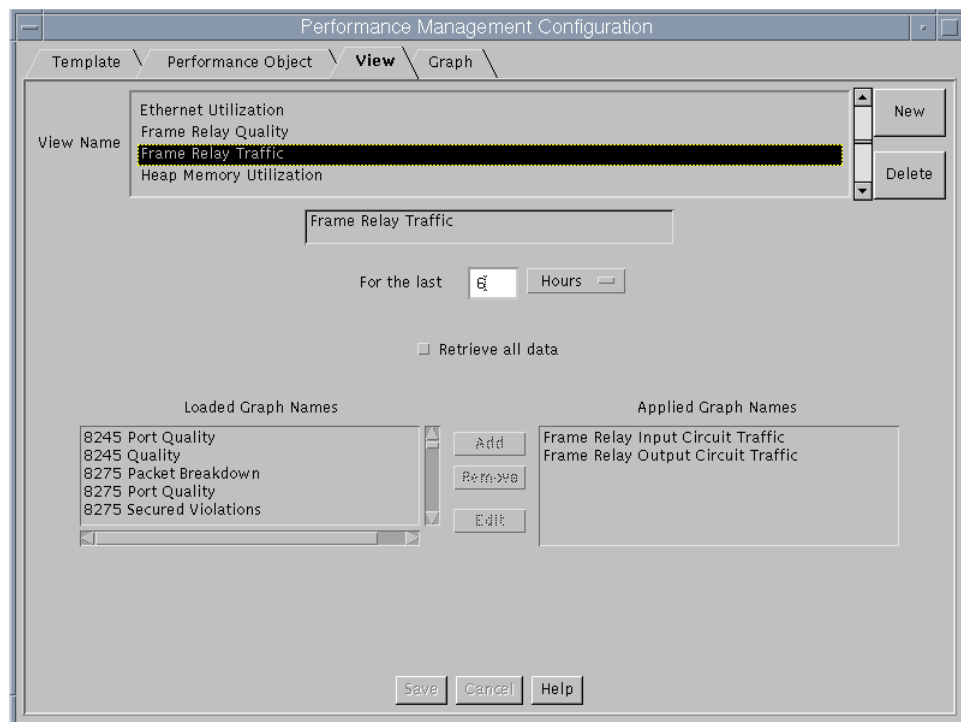

Figure 210. Example View Configuration: Frame Relay Traffic
- View - This page is used to create or modify views. You may combine any Graphs that exist (and are displayed in the left-hand list box) to create views (see Figure 210).